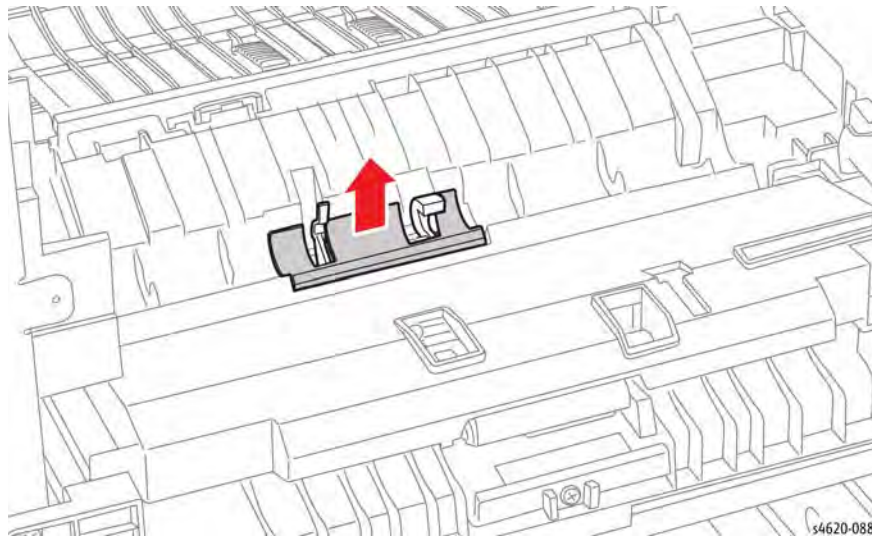

Figure 2 Remove the actuator cap
10. Release 2 clips that secure the actuator cap to the frame and remove the cap, Figure 2.